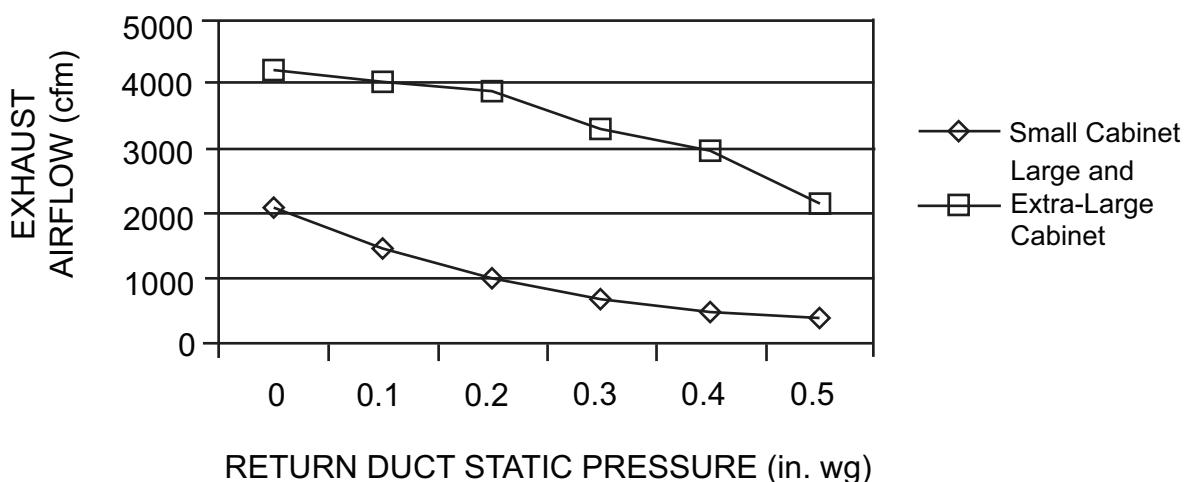

Fig. 13 – Power Exhaust Performance
8. Test power exhaust operation by setting the power exhaust set point on the economizer controller to 0%. Power exhaust performance is shown in Fig. 13.